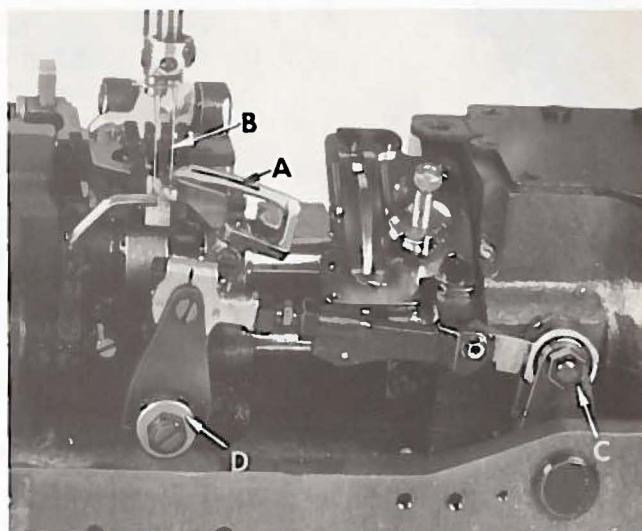
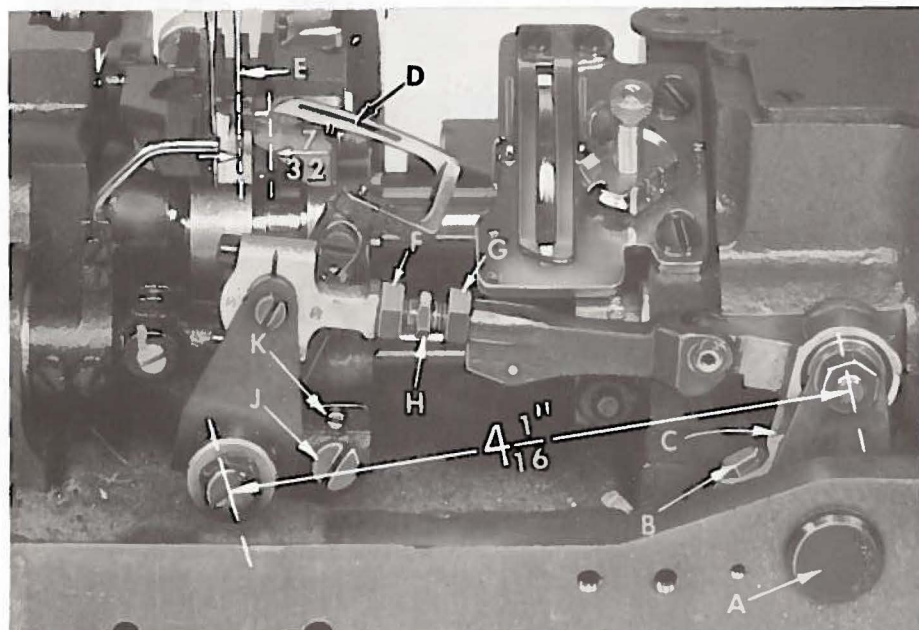

Fig. 5
Fig. 6
Insert the looper in the looper rocker and turn hand-wheel in operating direction until the point of the looper (A, Fig. 5), moving to the left is even with the left side of right needle (B). Note the height of the eye of the needle with respect to the looper point, then turn hand-wheel in the reverse direction until the looper point again moves to the left, and is even with the left side of the right needle. If the motions synchronize, the height of the eye of the needle with respect to the looper point will be the same. A variation of .005 inch is allowable. If the distance from the eye of the needle to the point of the looper is greatest when the pulley is turned in the operating direction, move the looper drive shaft synchronizing stud (A, Fig. 6) to the rear. Moving it in the opposite direction acts the reverse.
Moving of the looper drive lever shaft synchronizing stud is accomplished as follows: Loosen the clamp screw (B, Fig. 6) of the looper drive lever (C). To move stud to rear (away from operator), a light tap with a small hammer, directly on the stud, is all that is required. To move stud forward (toward operator), remove the cloth plate, oil reservoir top cover and oil reservoir back cover, then, a light tap on the looper drive lever rocker shaft, toward the operator, is all that is required. Then, using the looper drive lever to take up the end play between the looper drive lever rocker shaft and its synchronizing stud, tighten the looper drive lever on the shaft, using screw (B, Fig. 6).
With the looper at the extreme right end of its travel, check the location of the center line of the right looper connecting rod bearing, using gauge No. 21227 CX. Remove nut (C, Fig. 5) and place hole in gauge over threaded stud. The left end of the gauge should locate against the right side of the looper rocker cone (D). If adjustment is necessary, loosen the clamp screw (B, Fig. 6) and reposition the looper drive lever (C) as required. Tighten clamp screw. If gauge is not available, setting can be checked with a scale. The distance between the center line of the looper rocker cone and the center line of the looper lever stud should be $4 \frac{1}{16}$ inches (Fig. 6), when looper is at the extreme right end of its travel.
Insert a new needle in the right needle seat, type and size as specified. If the looper gauge is $\frac{7}{32}$ inch, for example, set the looper (D, Fig. 6) so the distance from the center of the right needle (E) to the point of the looper is $\frac{7}{32}$ inch, when the looper is at its farthest position to the right. Looper gauge No. 21225- $\frac{7}{32}$ can be used advantageously in making this adjustment. If adjustment is required, loosen nut (F) (it has a left hand thread) and nut (G) on connecting rod (H), turn the connecting rod forward or backward to obtain the $\frac{7}{32}$ inch dimension. Retighten both nuts, first nut (G) and then nut (F). Make sure the left ball joint
If adjustment is necessary, loosen lock screw (J, Fig. 6) and turn stop screw (K) as required. Turning stop screw clockwise sets the looper to the rear and turning it counter-clockwise acts the reverse. Holding looper to